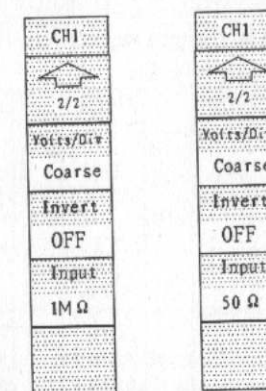

Figure 2-5
d. Volts/DIV setting, see Fig.2-5
f. Select input impedance, see Fig.2-5